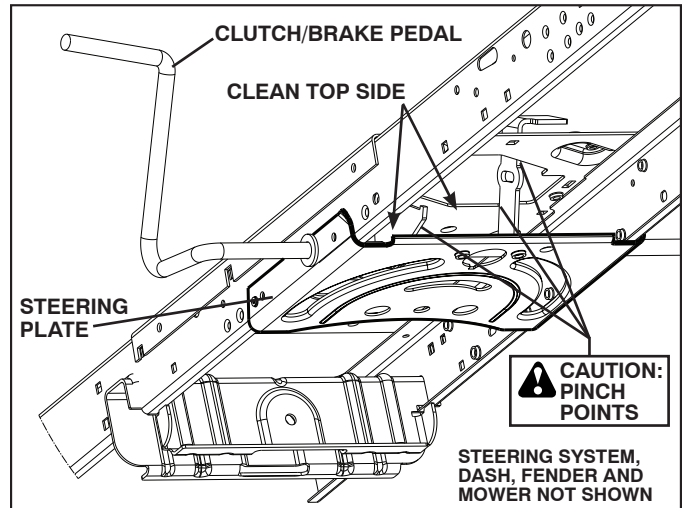

Fig. 22
**CAUTION: Avoid all pinch points and movable parts (See Fig. 22)**